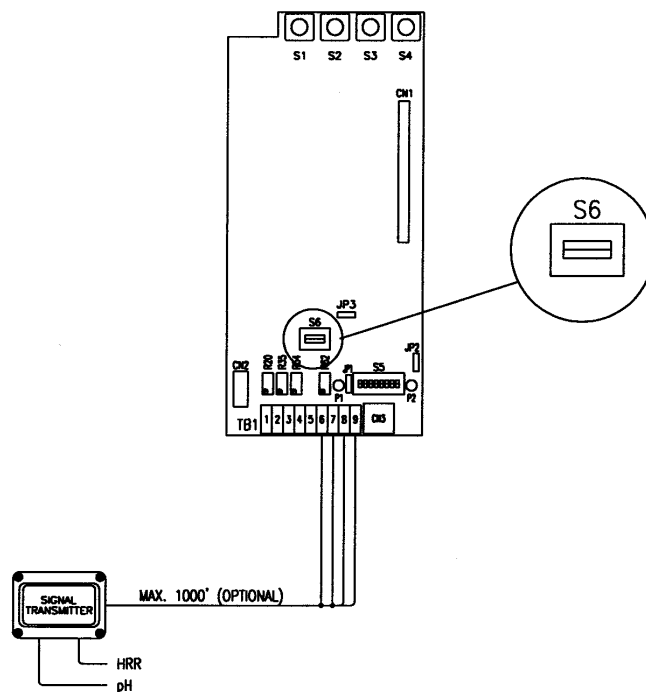

Fig 3.12
- S6 must be in the up position. (Fig. 3.12)